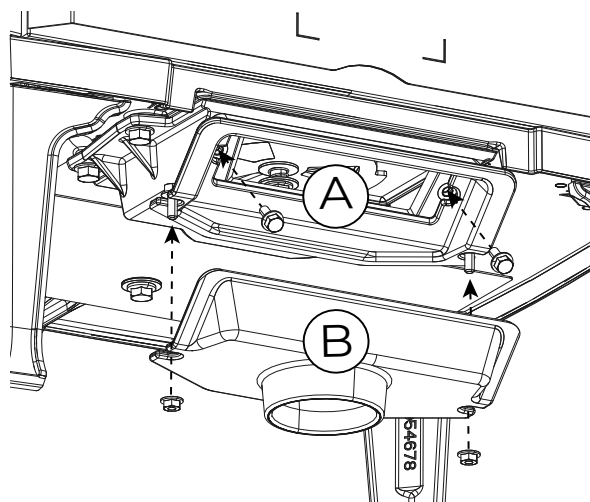

Fig. 5.11
3	Turn the adapter (B) and the mask (A) 180° and refit them in the lower part of the stove using the same screws removed previously (Fig. 5.11)